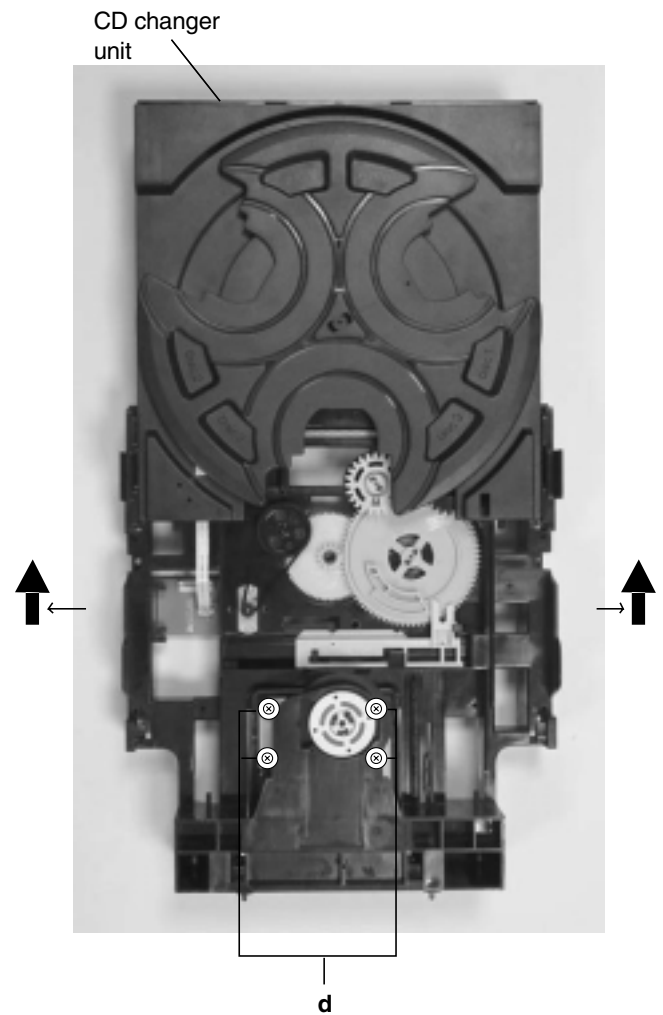

Fig.14
■ Removing the CD changer mechanism assembly (See Fig.14 to 15)